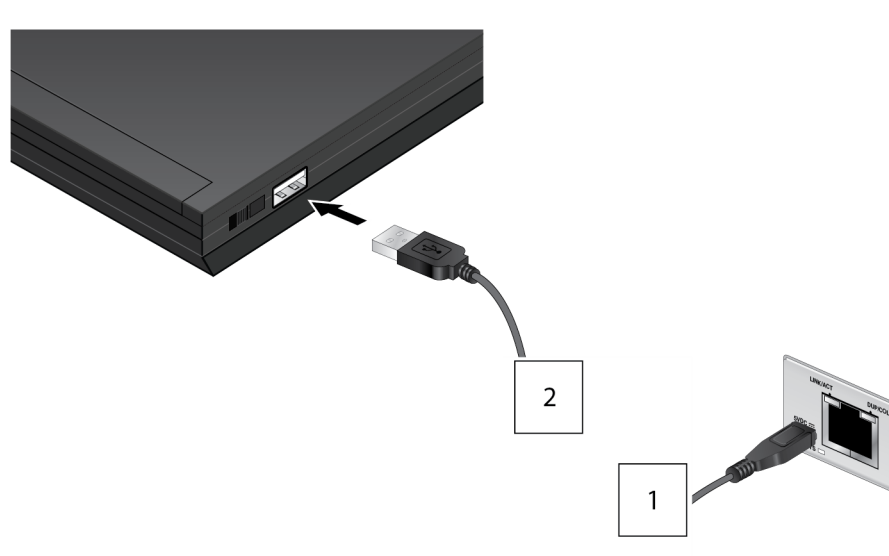

Figure 23. Connecting Power via USB Port
- Attach the other end of the USB cable to the USB port on a PC, as shown in Figure 23 on page 46.